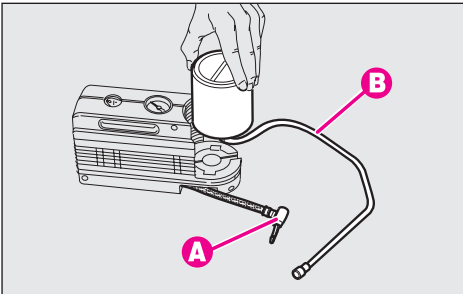

fig. 20
- disconnect connection **A**-fig. 20 and hose **B**;